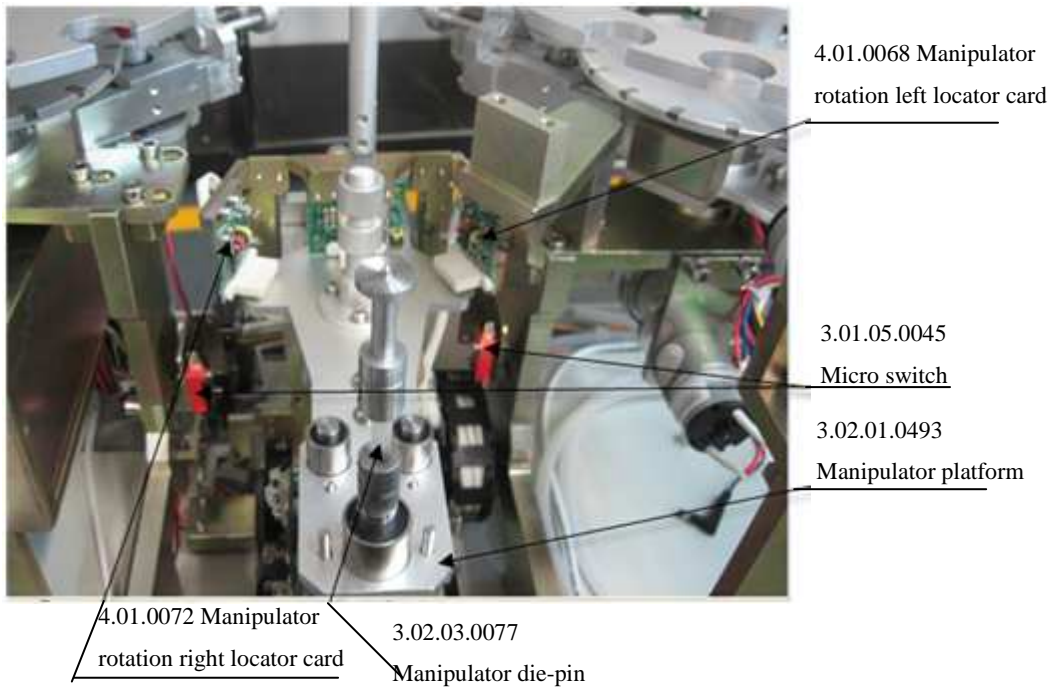

Fig.3-6
- 2) Install the die-pin support and cover of the manipulator. When the special instrument screw driver is used, don't screw them too tightly. They can be screwed until the top screw just in contact with the milling flat of the quartz bar of the manipulator. Shown as Fig.3-6.